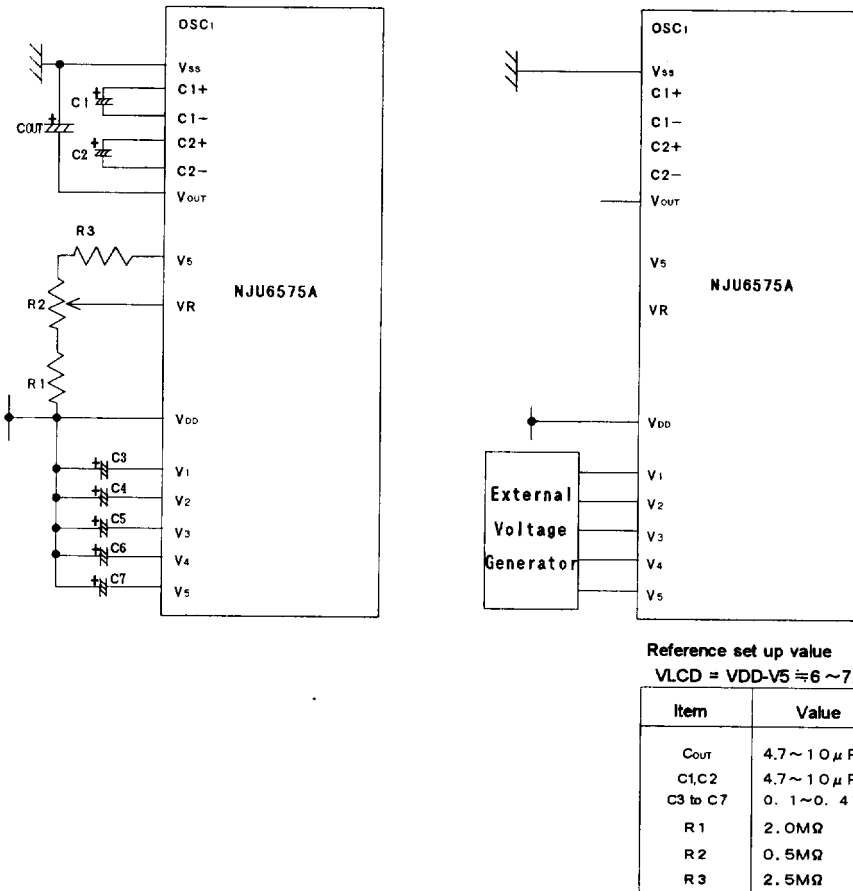

Fig. 4
*2 The wait time depends on the C_3 to C_7 , C_{OUT} capacitors((4) (d)Fig.4), V_{DD} and V_{LCD} voltage. Therefore a test on actual module should be practiced. Refer to the following graph.
The LCD driving bias voltage of V_1, V_2, V_3, V_4 are generated internally to divide the V_5 voltage by the bleeder resistance. And its supply to the LCD driving circuits after convert the impedance. As shown in Fig. 4, Five capacitors are required for each LCD driving voltage terminal as a voltage stabilizing. And the value of capacitors C3, C4, C5, C6 and C7 determine by combine with the actual LCD panel.